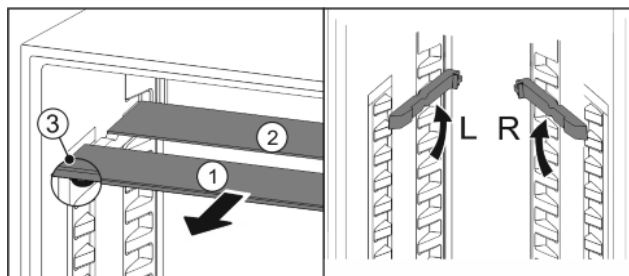

Fig. 18
- ▶ Pull the glass panels out Fig. 18 (1) from the front, one at a time.
- ▷ Glass panel Fig. 18 (1) with pull-out stoppers is at the front.
- ▷ Stoppers are pointing down Fig. 18 (3).